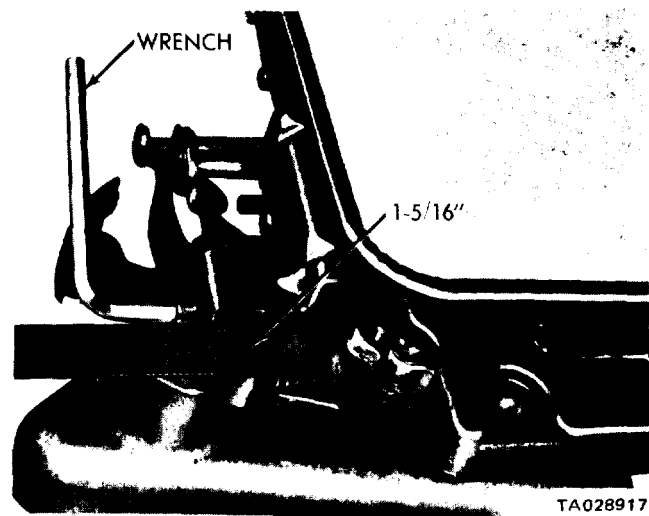

Figure 4-32. Line Pressure Adjustment.
a. Line Pressure. An incorrect throttle pressure setting will cause incorrect line pressure readings even though the line pressure adjustment is correct. Always inspect and correct the throttle pressure adjustment before adjusting the line pressure. The approximate adjustment is 1-5/16 inches, measured from the valve body to the inner edge of the adjusting nut (figure 4-32). However, due to manufacturing tolerances, the adjustment can be varied to obtain the specified line pressure. The adjusting screw may be turned with an allen wrench. One complete turn of the adjusting screw changes the closed throttle line pressure approximately 1-2/3 psi. Turning the adjusting screw counterclockwise increases the pressure, and clockwise decreases pressure.